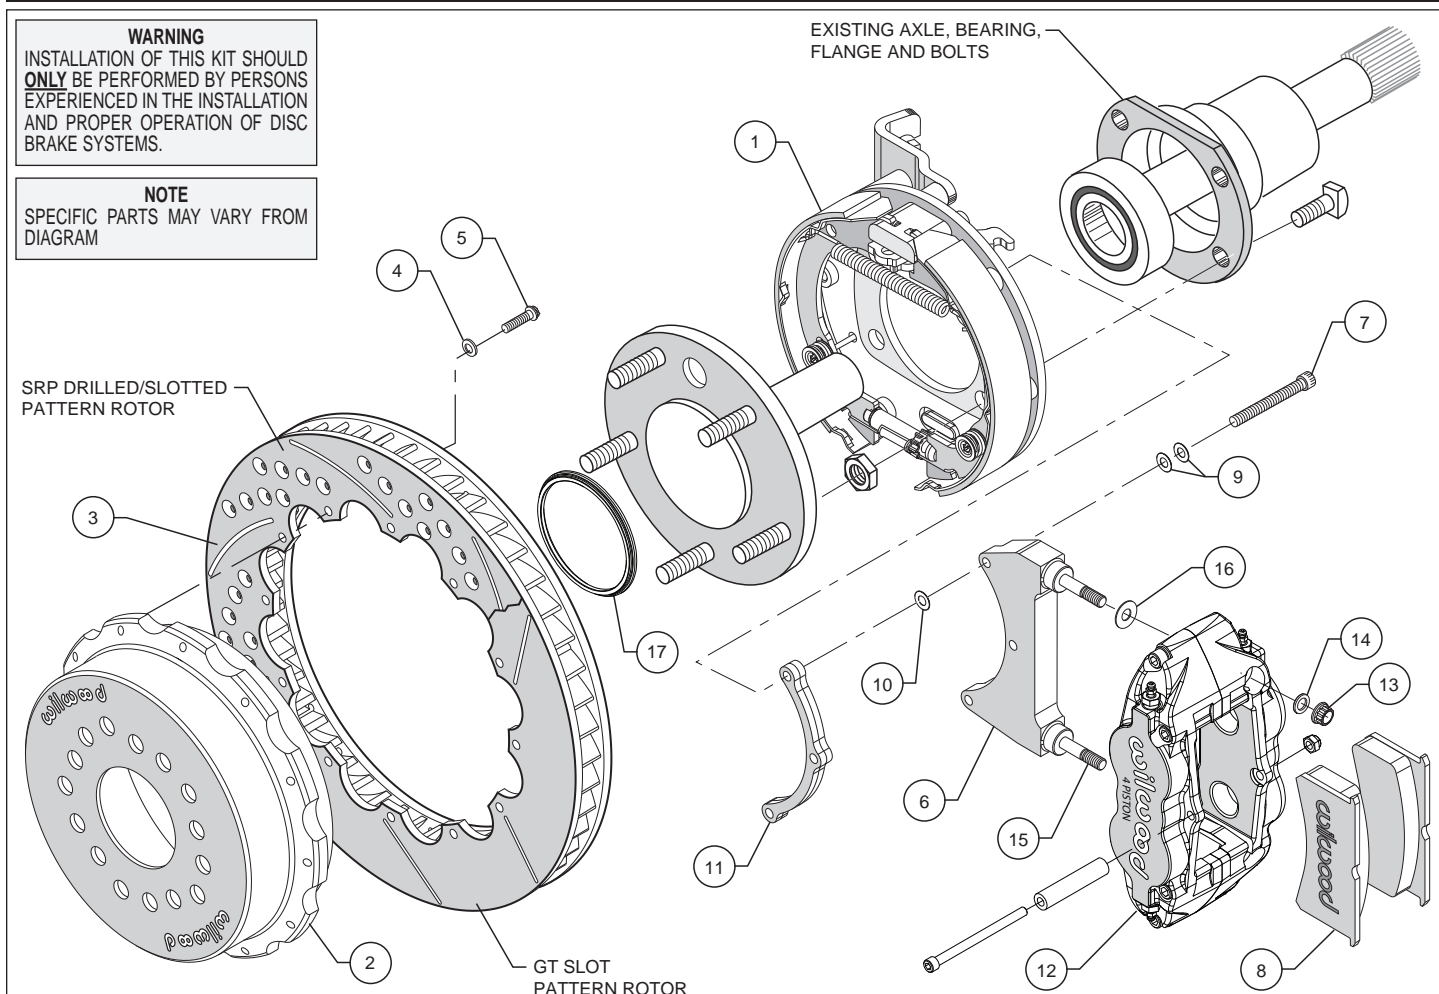

Figure 1. Typical Installation Configuration
The caliper mounting bracket assembly (6) should be installed first with clean, dry threads on the mounting bolts (7). Install the bracket from the rear side of the bracket kit assembly (1) by sliding bolt (7) through two flat washers (9), bracket (6), shim washer (10) and finally through the spacer (11), see Figure 1. **NOTE:** End of bolt should not exceed inside face of insert. The bracket must tighten squarely against the back side of the bracket kit assembly (1). Inspect for interference from casting irregularities, machining ridges, burrs, etc. Use one thin shim (10) between the bracket (6) and spacer (11) during initial trial fitting.
- Install one shim (16) over each pre-installed stud (15) on the radial mount bracket (6). Slide the caliper (12) in place over the studs and rotor, then install the washer (14) and lock nut (13) to hold the caliper in place. Snug the lock nuts (13) and check that the rotor (3) is centered in the caliper (12). Add or subtract .015" shims (10) as necessary between the caliper mounting bracket (6) and the spacer (11) to center the caliper (12).
- Remove the caliper center bridge pad retainer bolt, nut, and tube from the caliper. Slide the brake pads (8) into place. They should install easily without interference. Check that the outside radius of the brake pad is aligned with the outside diameter radius of the rotor face. Add or subtract shims (16) between the caliper (12) and mount bracket (6) to gain the proper alignment. Reinstall the center bridge pad retainer tube, bolt, and locknut. The locknut should be snug without play in the bolt or tube. Be cautious not to over tighten.
- Adjust the parking brake shoes outward (using a drum shoe adjustment tool available at your local auto parts store) while spinning the hat (2) until a slight drag is felt against the hat/drum. Remove the lug nuts that were holding the hat/rotor in place. Install the wheel and lug nuts. Check to see that the wheel rotates freely without interference.
- Once all clearances have been checked, remove the wheel, caliper, hat/rotor from the bracket kit assembly (1). Secure the caliper mounting bracket (6) to the bracket kit assembly (1) using red *Loctite*[®] 271. Torque bolts (7) to 180 **in-lb**. Reinstall the hat/rotor assembly and again use lug nuts to hold it in place. Lubricate caliper mounting studs and nuts with lightweight oil, reinstall the caliper, torque the caliper nuts (13) to 30 ft-lb.
- **NOTE:** Clevis and cable kits which attach to the parking brake assembly are not included in the Wilwood parking brake kit. Wilwood offers a generic style parking brake cable kit, P/N 330-9371 for this application which can be ordered separately from your local Wilwood dealer or by calling Wilwood customer service at (805) 388-1188.